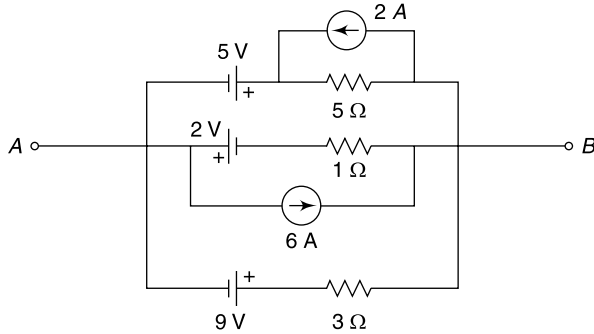

Fig. 4.177
16. Reduce the circuit in Fig. 4.177 to a voltage source in series with a resistance between terminals A and B.